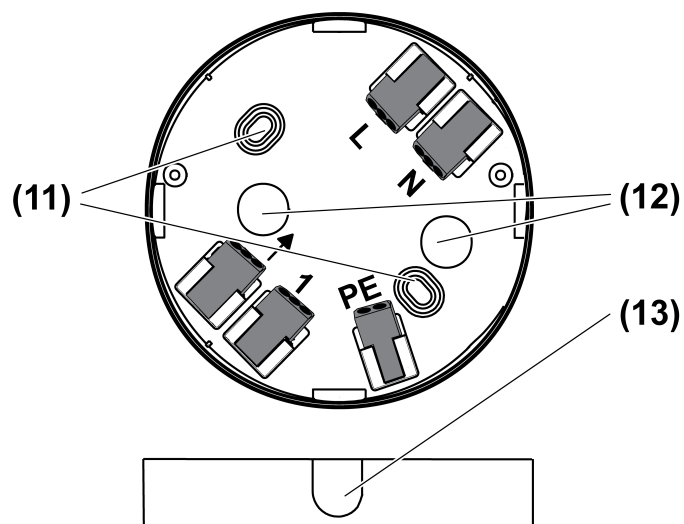

Figure 8: Connection box
- (11) Fastening holes
- (12) Cable entry, surface-mounted
- (13) Thin points for optional cable entries
- For an additional flush-mounted cable entry or surface-mounted cable entry, break out the appropriate thin point (13) (Figure 8).
- Fastening the connection box (1) through holes (11) (Figure 8).